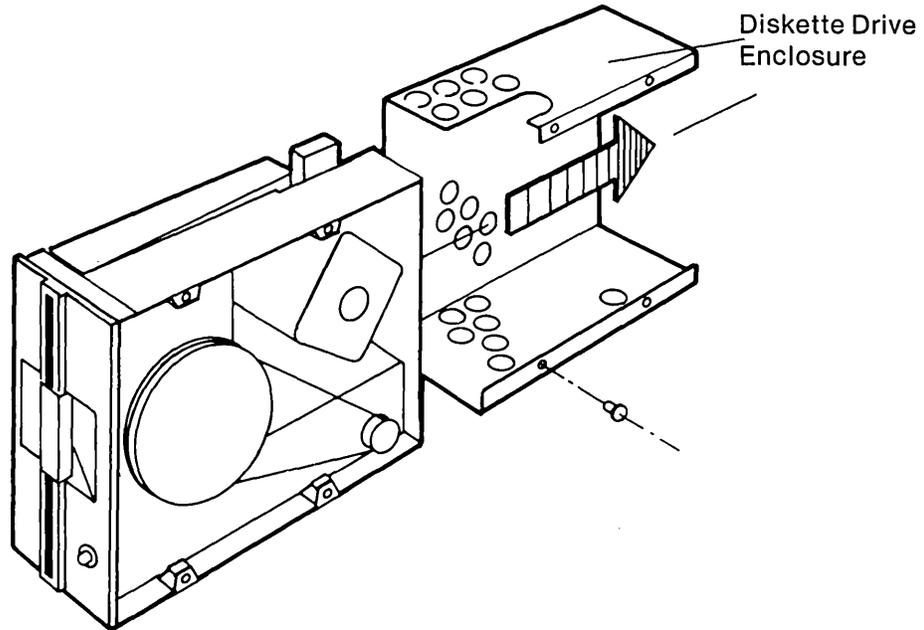

Figure 11-20. Removing Diskette Drive Enclosure.
9. Remove diskette drive enclosure from disk drive assembly (see Figure 11-20).